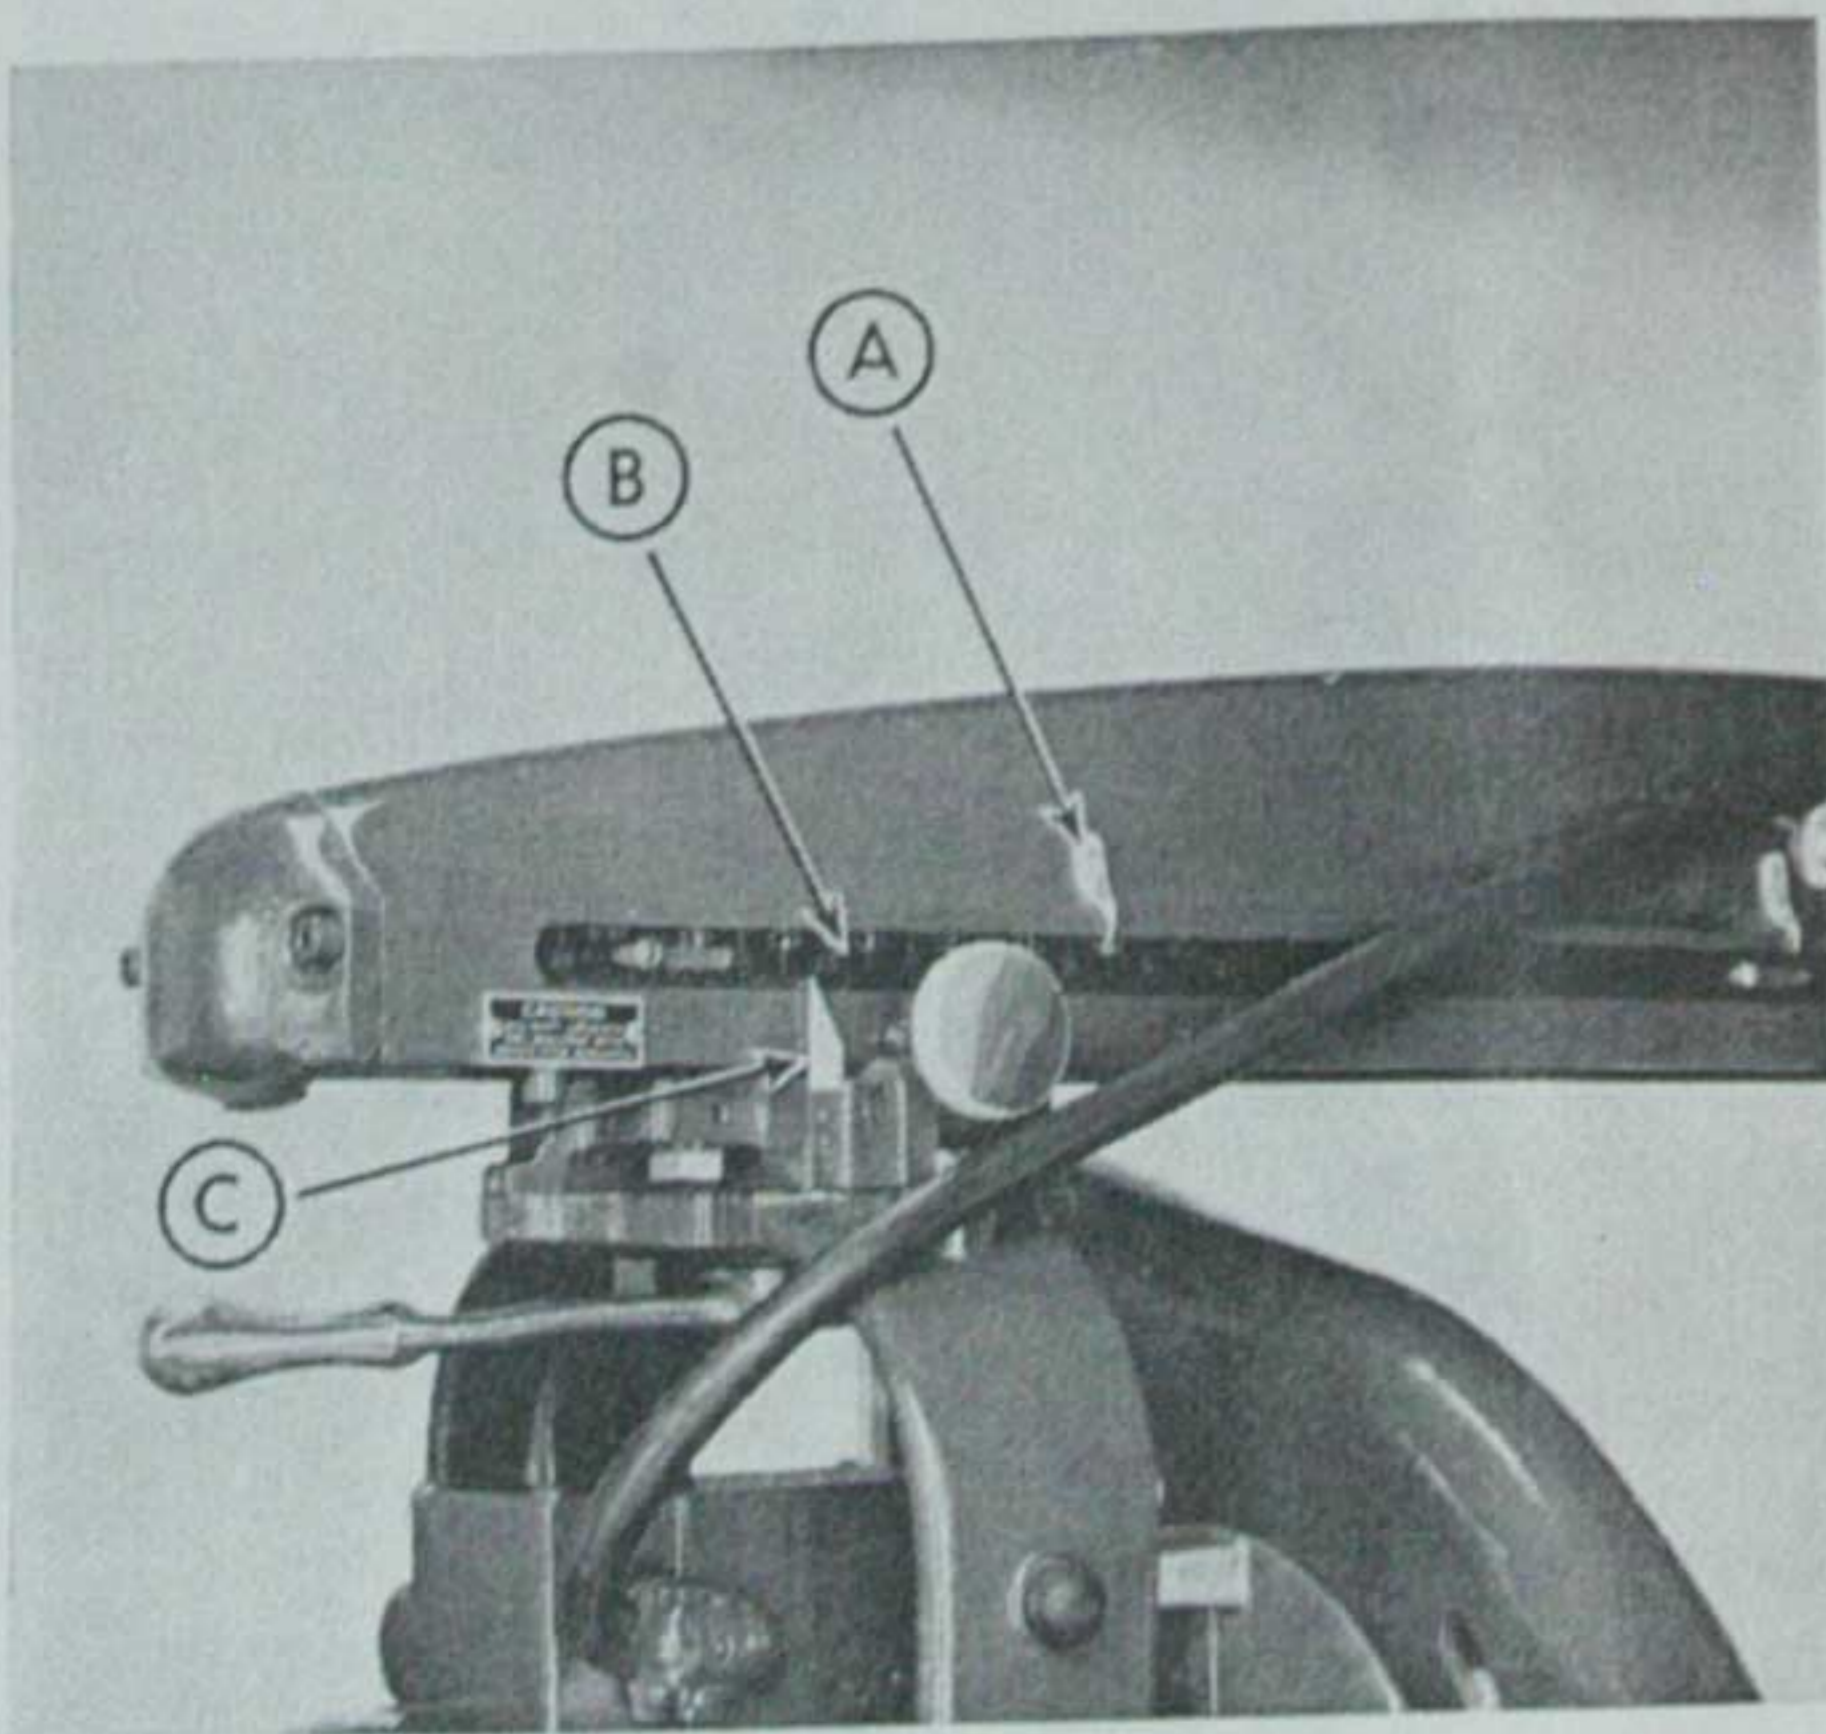

FIGURE 12
Accurate work cannot be done if the bearings on the motor carriage (Fig. 12) are not in proper adjustment. Remove the endplate from the front of the arm and thoroughly clean the four tracks. With the carriage forward in the arm, place a light behind the carriage and as high as possible between the tracks. First sight down between the top vertical bearings and the tracks, making sure that all bearings are running true and rotating when the carriage is moved. If any of the top bearings do not revolve, when in contact with the top track, it will be necessary to remove the entire carriage for inspection. This can be done by removing the
2. Check to see if the **front** pointer (A, figure 12) indicates zero on the **upper** edge of the rip scale (B).